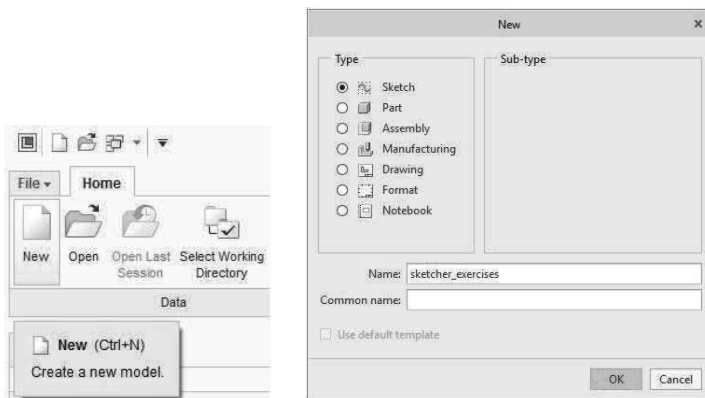

Figure 3-17 New Sketcher File
**Step 3:** Create a new sketch, named “sketcher\_exercises” (Figure 3-17).